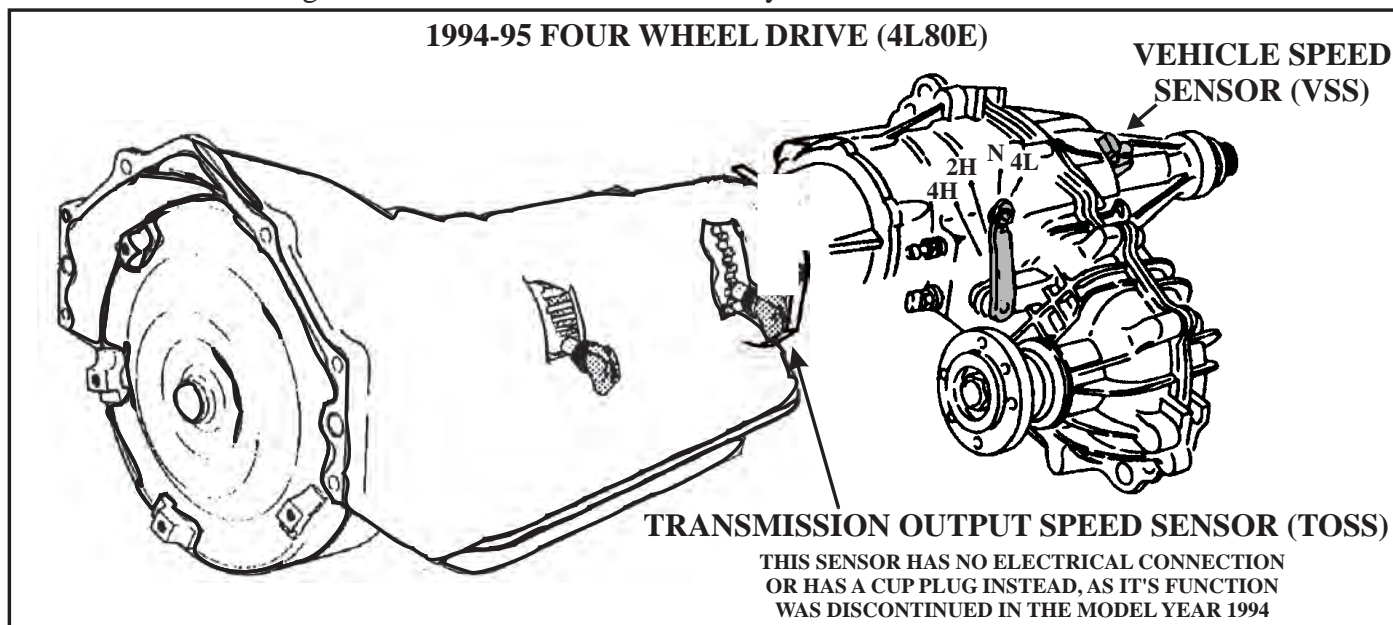

Figure 61
- The speed sensor in the transfer case became the TOSS and the VSS, (Refer to Figure 61). Shift timing adjustments and speedometer accuracy in 4W LO range was accomplished through the use of a 4WD LO Switch in the transfer case in earlier vehicles and a Transfer Case Control Module (TCCM) in the Later 4x4 vehicles. Both 1994 to 1995 "K" and 1993 to 1994 "T" trucks with 4L60E transmission evolved in a similar way. Beginning with "K" trucks in 1996 and "T" trucks in 1995, the "DRAC" was eliminated. All VSS buffering now took place inside the Vehicle Control Module (VCM) just like the passenger cars did since the 4L60E began use in them for the 1994 model year.